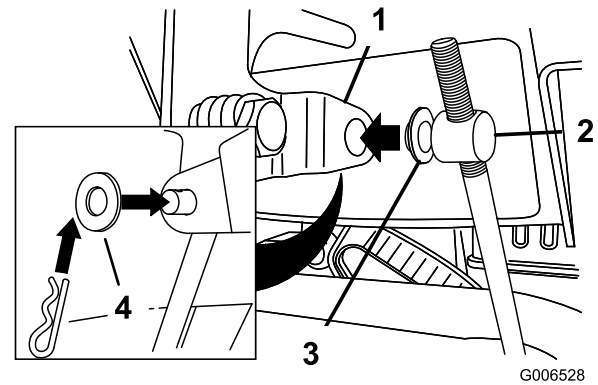

Figure 6
3. Remove the hairpin cotter and the outer washer from the trunnion on the upper end of the speed control rod (Figure 6).
Note: To make installation easier, leave the inner washer on the trunnion (Figure 6).
- Lift up on the speed control rod and insert the trunnion into the hole in the speed selector lever (Figure 6).
- B. Disconnect the trunnion from the speed selector lever (Figure 6).
- C. Turn the trunnion downward (clockwise) on the speed control rod (Figure 6).
- D. Connect the trunnion to the speed selector lever (Figure 6).
- C. Turn the trunnion upward (counterclockwise) on the speed control rod (Figure 6).